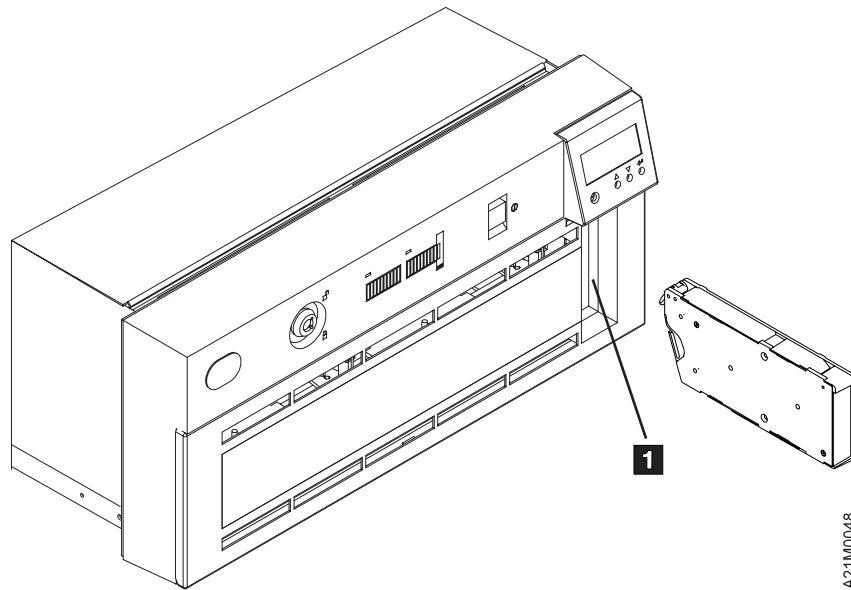

Figure 51. Location of Priority Cell in Models B21 and B22
- \_\_\_ Step 16. Load a scratch cartridge through the priority cell (see **1** in Figure 51 on page 93) to the import position by pushing it gently into the priority cell until it comes to a stop and even with the front of the magazine. Select START from the main **OPTIONS** menu.
- \_\_\_ Step 41. Load a media cartridge through the priority cell (see Figure 51 on page 93) to the import position by pushing it gently into the priority cell until it comes to a stop, and even with the front of the magazine.